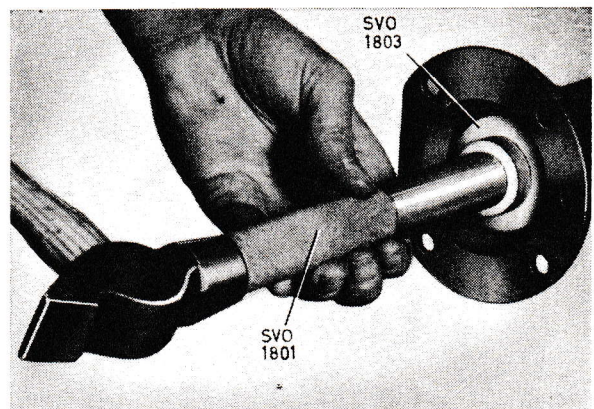

Fig. 4. Fitting an oil seal.
4. Drive in the new oil seal. Make sure it is correctly located. Use tools SVO 1801 and SVO 1803, Fig. 4.